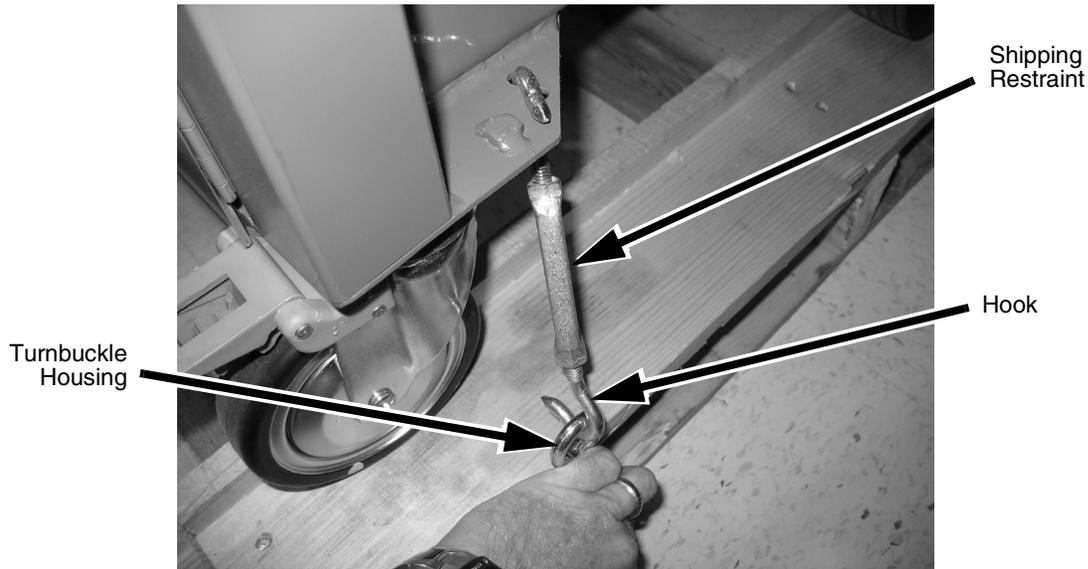

Figure 2. Loosening the Turnbuckle from its Housing
10. Unhook the opposite end from the PrintCart frame. See Figure 2.